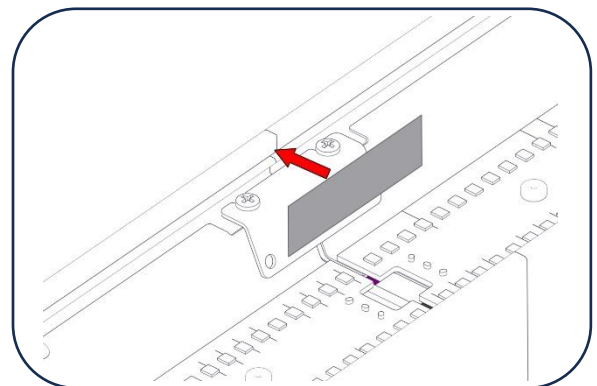

Figure 7
15. Apply the included Tape over the joint, above the Center Support Brackets. Use Tape Tool to easily push the tape into the housing cavities. [Figure 7]